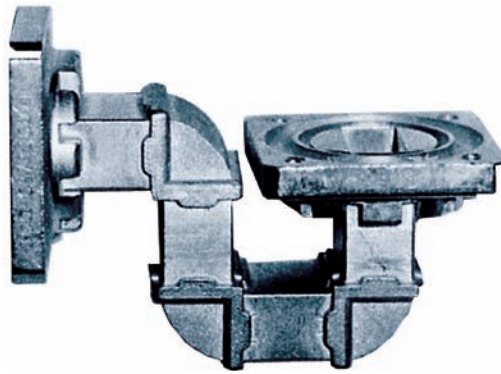

FIGURE 5-7 Furnace brazed part. Courtesy of Larry Jeffus.
- a. Parts can be preassembled and dipped or furnace soldered or brazed in large quantities, Figure 5-7.